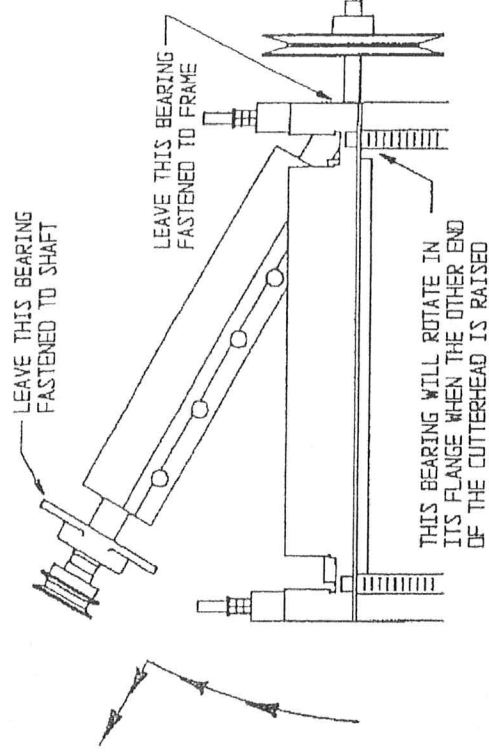

Fig. A-5
7. Lift up on the cutterhead drive pulley raising that end of the cutterhead. The bearing on the other end will rotate in its housing (see fig. A-5). This will release the tension on the belt for the reduction drive side.
9. Slide the cutterhead out of the bearing on the reduction drive side (see fig. A-5).